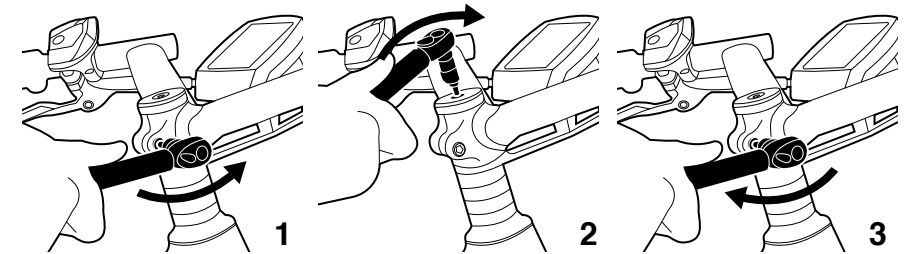

Figure 12. Stages for the headset settings
The headset is made up of two bearings and cups placed at each end of head tube. All Moustache bikes have an « A-head » head set: this is adjusted using the round hood which is found above the stem (*as in Figure 12*).
1. Loosen the screw(s) on the stem as in stage 1 of *Figure 12*.
2. Then progressively tighten, without forcing, the screw in the hood until play disappears as in stage 2 of *Figure 12*.
4. Retighten the screw(s) on the stem following the recommended torques as in stage 3 of *Figure 12*.